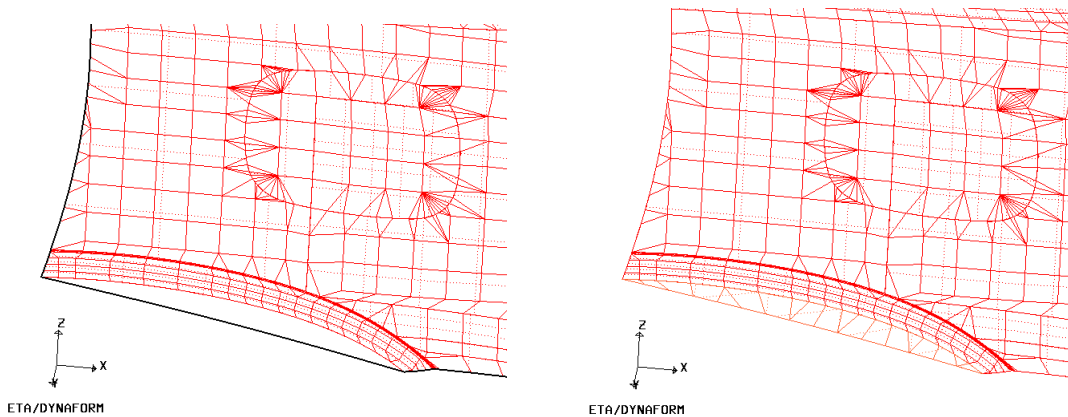

Figure 6.1.25 Morphing Result
3. Click on the FILL BOUNDARY button to fill elements between the original boundary and the smoothed boundary. The result from a typical morphing operation is illustrated in Figure 6.1.25.